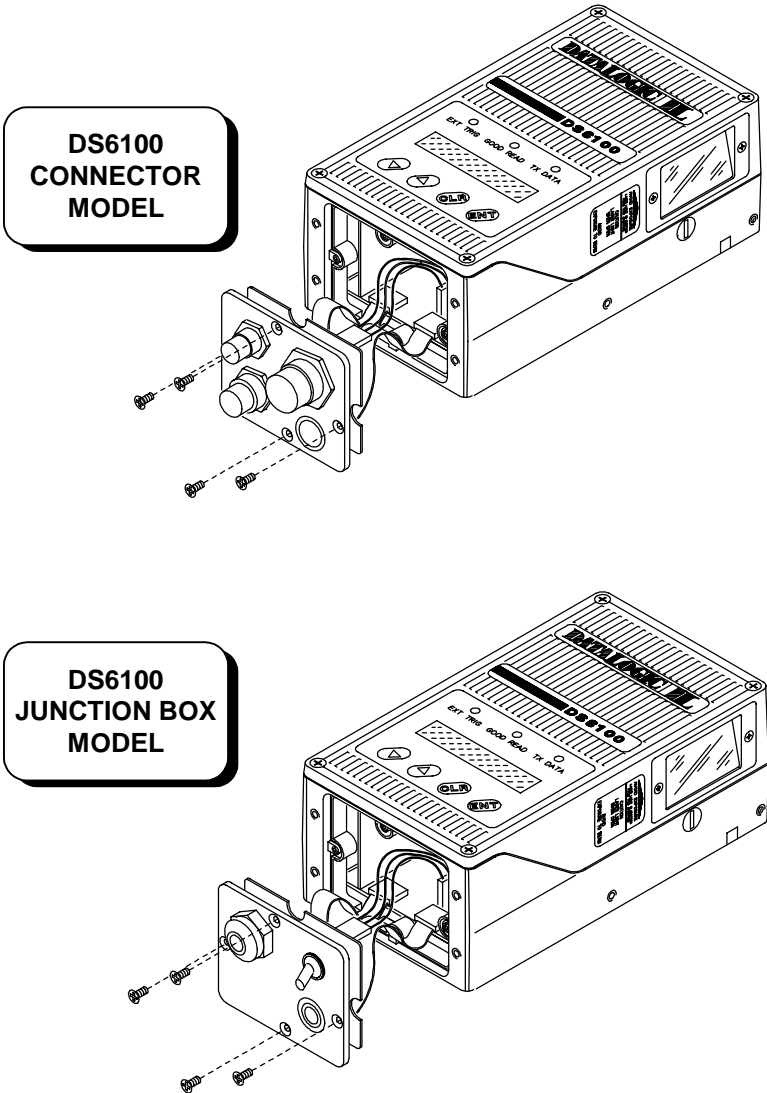

Figure 2.2 - Opening the DS6100
Refer to the following instructions and refer to Figure 2.2 when opening the reader:
- Carefully remove the panel as shown in Figure 2.2. Pay attention not to stretch the cables between the panel and the scanner.